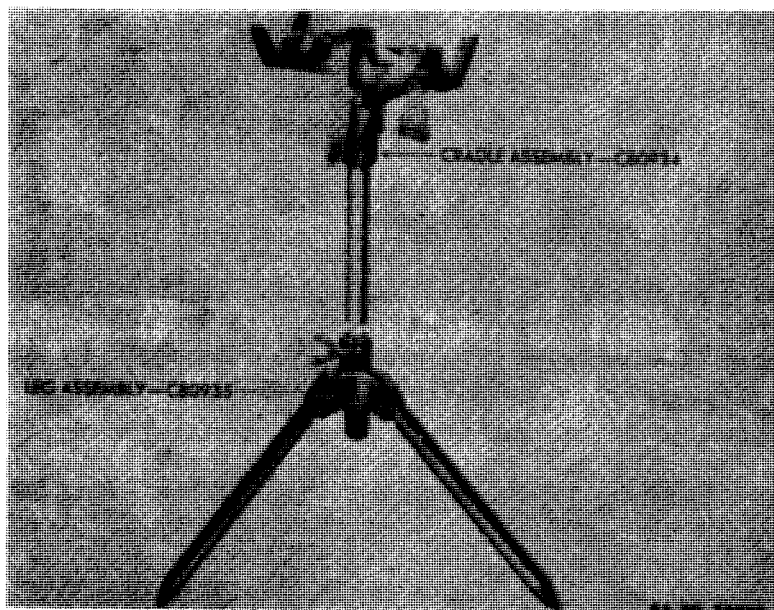

Figure 20-Tripod M14-Separated
(1) Loosen the clamping thumbscrew in the leg assembly and remove the cradle assembly from the leg assembly (fig. 20).